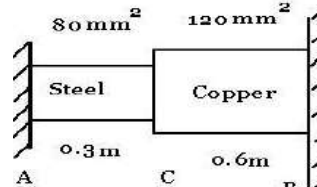

Figure 8
40. A stepped bar shown in **Figure 8** is fixed at its two ends rigidly. The bar is free from stresses when its temperature is 30°C. When the temperature of the bar is increased to 90°C determine i) Stresses induced in steel and the copper portions and ii) Displacement in the junction at point C. Take $\alpha_s = 1.8 \times 10^{-5}/^\circ\text{C}$, $\alpha_c = 1.2 \times 10^{-5}/^\circ\text{C}$, $E_c = 100\text{Gpa}$, $E_s = 200\text{Gpa}$.